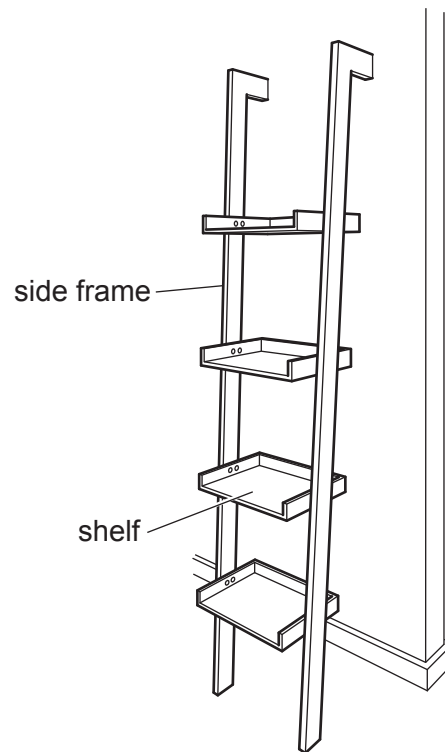

Fig. 2
- 2 **Fig. 2** shows a shelving unit made from timber. It has two side frames and four shelves.